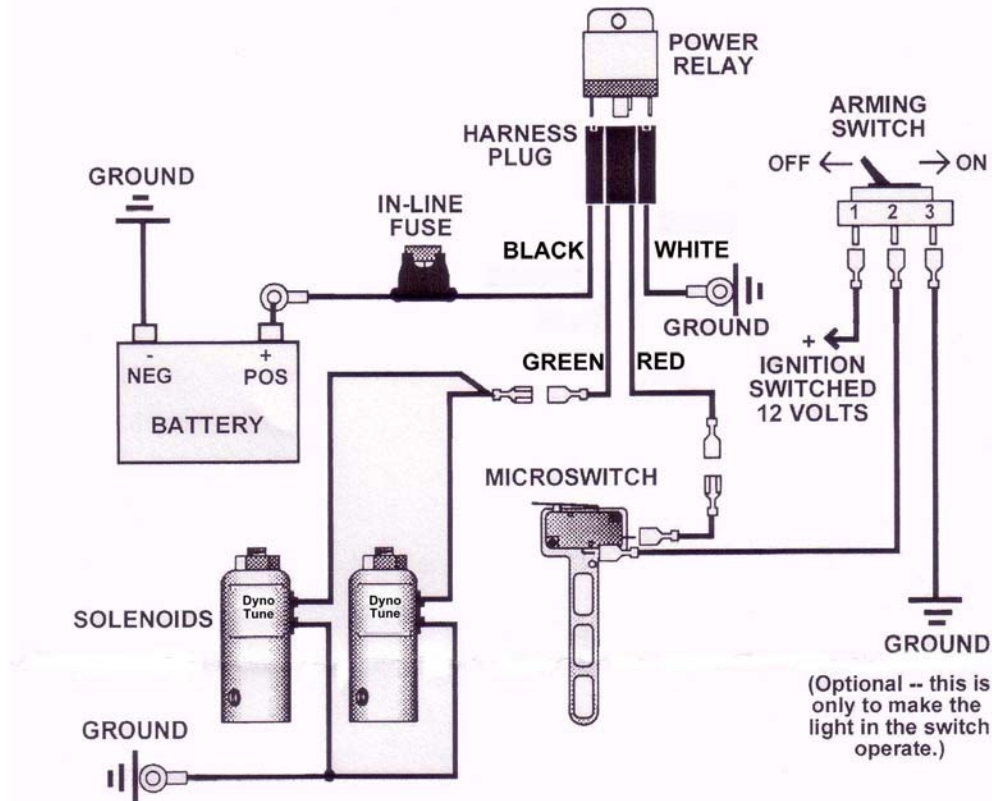

FIG. 9
Refer to figure 9 and the procedures in this section for electrical system installation. **WARNING! Death or injury may occur from working on a charged electrical system.**
- 8) Push the throttle wide open while the engine is off. Each solenoid should make a clicking noise if it is working properly. If no Noise is heard, check all wiring connections and each wire in schematic per figure 9. **NOTE: Nitrous and Fuel flowing through the solenoids is needed to keep the coils from melting. Short, one second power cycles will not hurt them but more than 5 seconds with no nitrous or fuel flowing though them will melt the coils and void your warranty.**